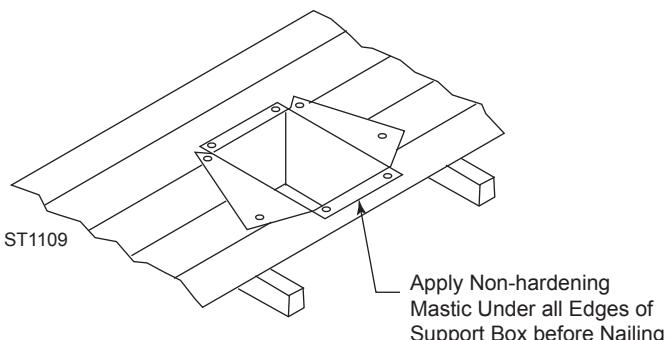

Figure 22 -
- Using tin snips, cut the support box from the top corners down to the roofline and fold the resulting flaps over the roof sheeting. *Figure 22*. Apply a bead of non-hardening mastic around the top edges of the support box to make a seal between the box and the roof. Nail in place with roofing nails. Remove any combustible material that might be inside the support box.